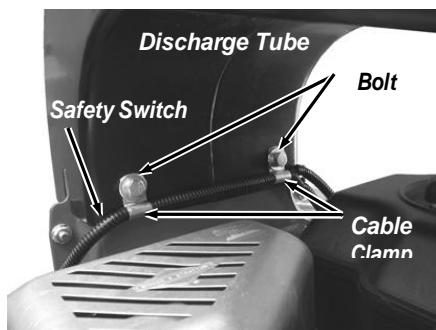

Figure 10
9. Secure the Tube and two Safety Wire Harness Cable Clamps to the rear of the Housing with two 5/16" - 18 x 5/8" Bolts and Flat Washers (not fender washers) (**Figure 10**).